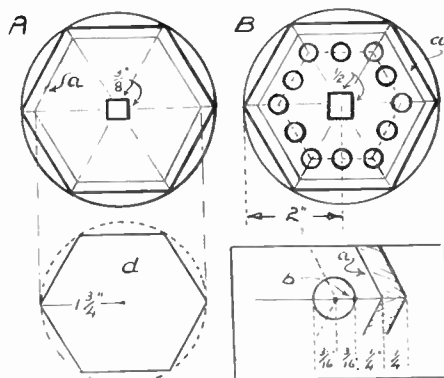

Fig. 2—How to make the shapes
The six-sided shapes are then scribed out, the one as (A) and the other as (B), Fig. 2. On both shapes lightly mark in the radii from the six points to the centres and put in the line (a) which is a  $\frac{1}{4}$  in. from the points, along the radii, that is a shade less from the outside edges.